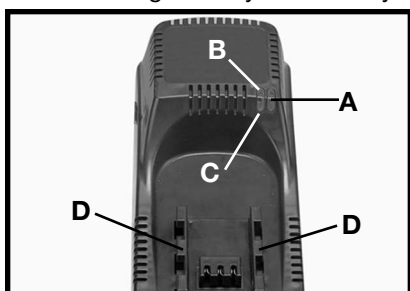
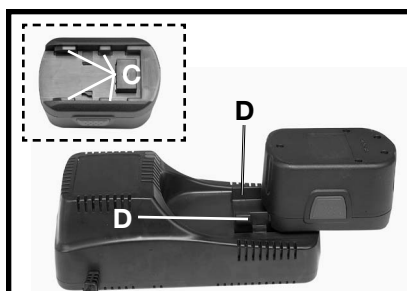

Fig. 2
Fig. 3
Make sure power circuit voltage is the same as that shown on the charger specification plate. Connect charger to power source. The orange light (A) Fig. 2, should light up. This indicates the charger is ready to begin charging.
Position battery pack on charger, align rails (D) Fig. 2 and Fig. 3, on battery charger with four tabs (C) Fig. 3 on battery pack. Slide battery forward onto charger until it stops.
The red light (B) Fig. 2, should begin to glow continuously, indicating that the battery pack is receiving a “Fast Charge” (if the red light does not glow continuously, and the green light (C) Fig. 2, begins to glow: remove battery and re-insert when battery temperature is between 40°F (4.4°C) and 104°F (40°C). After approximately one hour, the “Fast Charge” indicator light (red) should go out indicating that the battery pack is fully charged and that the charger is now in a “Trickle Charge” mode (green light). The battery pack can be left on “Trickle Charge” until you are ready to use it.